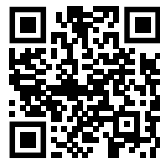

Fig. 115
- ▶ 请打开 Liebherr SmartMonitoring Dashboard。〔参见 Fig. 115〕